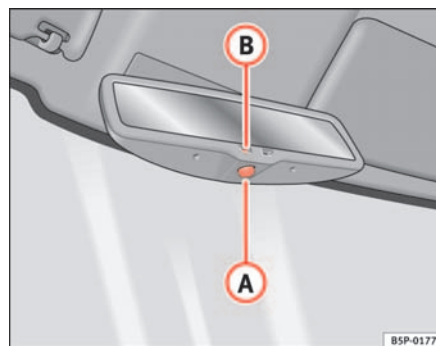

Fig. 88 Automatic anti-dazzle interior mirror.
- Press button (A) ⇒ fig. 88. Warning lamp (B) goes out.
- Press button (A) ⇒ fig. 88. Warning lamp is lit.